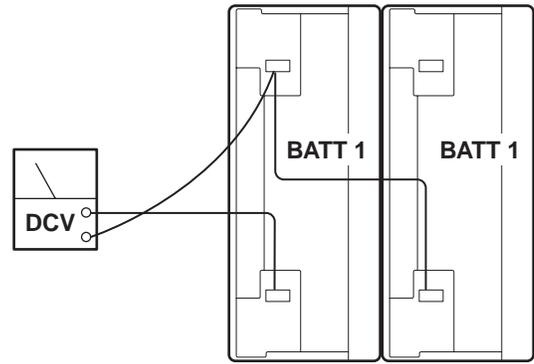

Figure 6-4.
4. Continue to press the TABLE UP button on the pendant control so that the pump motor continues to run and using a DC voltmeter, check the voltage drop of each battery individually. See figure 6-4.